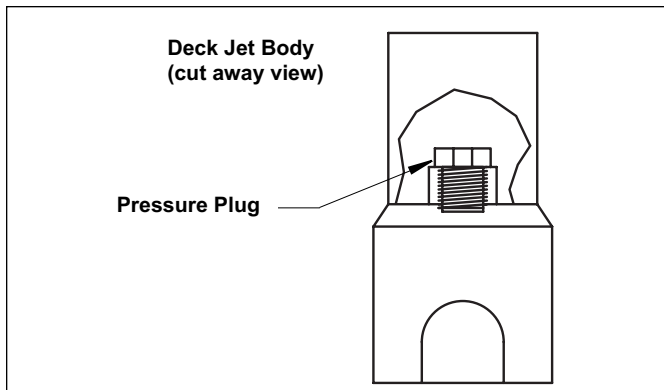

Figure 4. Install Pressure Plug
- Remove the Deck Jet cover. Wrap teflon tape around the pressure plug threads and thread into the Deck Jet body (see Figure 4). Use a 15/16" box end wrench to tighten. **DO NOT overtighten.** Replace the Deck Jet cover.